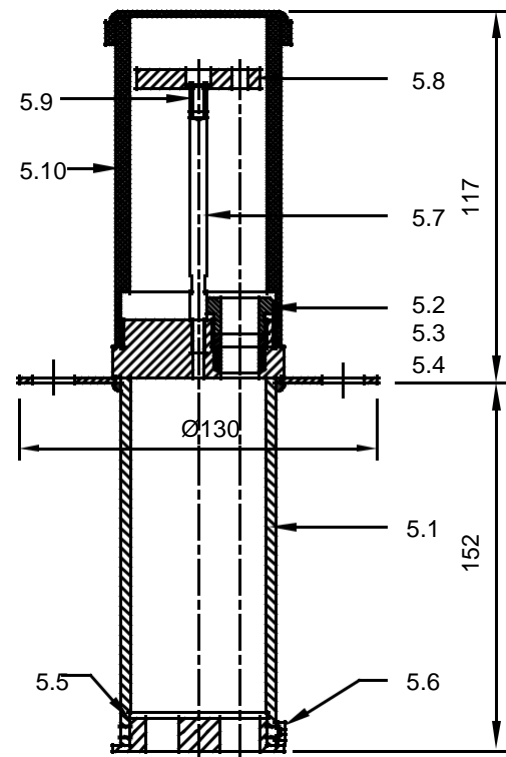
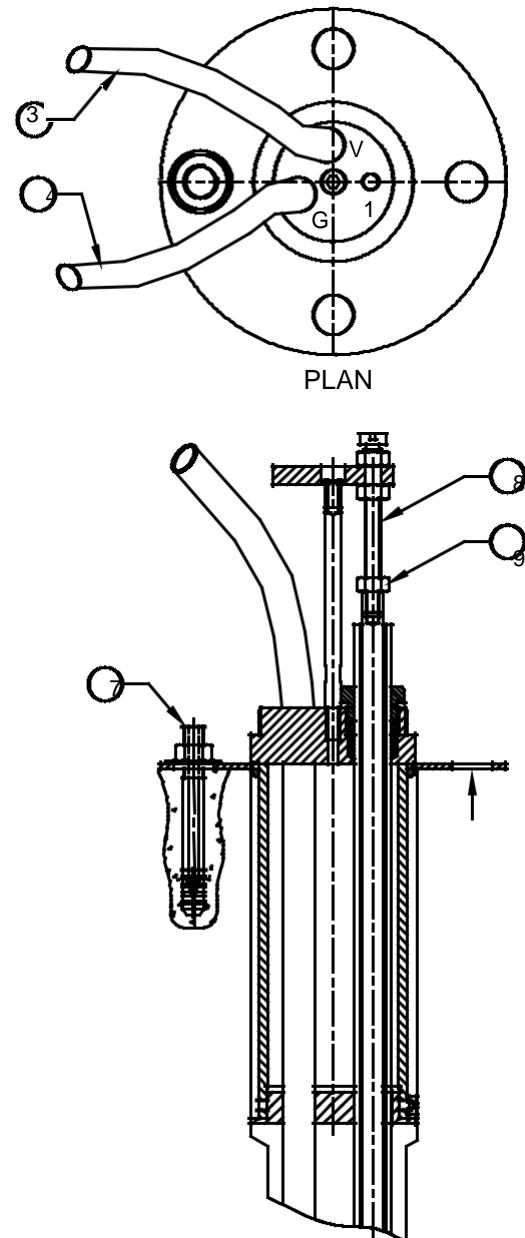

Figure 2.2
Figure 2.5 – EDS-64UD Assembly
Borehole extensometer measures displacement taking place in a borehole with reference to time. Extensometer helps to accurately measure change in distance between anchor (1 figure 2.1) with respect to reference plate (5.8 in figure 2.2) and monitor their relative displacement with passage of time. It is usually assumed that the anchor is in stable ground and so any change in anchor spacing is interpreted as sag of roof bed, movement of side wall or slope, settlement of foundation etc.
8	Setting screw (Ch. Head) M6x100 (refer Figure 2.5)
9	Hex. Nut M6 (refer Figure 2.5)
Refer to figure 2.2 and part list below it for details. Reference head assembly for single point extensometer is installed in a borehole of  $\phi$  50 mm. The diameter at mouth of borehole is increased to 62 mm up to a depth of 200 mm. The flange has four 15 mm diameter mounting holes at a PCD of 105 mm.
It comprises of a stainless steel/fiberglass rod of specified length protected inside an outer PVC tubing/continuous nylon tube. The rod has two end connectors. One end connector has a male thread and fits into the anchor. The other end connector with a female thread is for the reference button. The anchor end of PVC/nylon tube is firmly sealed with the anchor to prevent any grout from leaking in. The other end of the PVC/nylon tube is firmly sealed in the reference head assembly (refer 5.2 – 5.4 in figure 2.2). Proper sealing in the reference head assembly is especially necessary for upwards to horizontally slanting holes for preventing any grout for leaking into the reference head assembly during grouting.
3.2.2 Refer to figure 2-2. Remove cover (5.10) from flanged housing (5.1) and place latter flat on the ground. Loosen all hollow bolts (5.4) slightly.
3.2.4 The end of stainless steel rod to pass through the guide plate (5.5 of figure 2.2) to emerge through hole marked '1' on reference/flanged housing top (5.1 of figure 2.2). In case of Fiberglass rod,
guide end of fiberglass rod through corresponding hole in guide plate (5.5 of figure 2.2) to emerge through hole marked '1' on reference/flanged housing top (5.1 of figure 2.2). Fiberglass rod will have to be bent to achieve this. Locate setting screw (8 of figure 2.5) between reference plate (5.8 of figure 2.2) and female connector end of stainless steel/fiberglass rod. Insert setting screw (8 of figure 2.5) through reference plate hole and screw through setting spacer into female connector end. When tightened, reference button will be at a depth of around 25 mm from top of reference plate. In case this distance is to be maintained different, use different length setting spacer (8 of figure 2.5).
3.2.5 In case hole in reference plate is not aligned with hole marked '1' in flanged housing, loosen Allen head bolt (5.9 of figure 2.2) and retighten after aligning.
**NOTE:** On side wall and roof where extension is generally expected, it may be desirable to use a 5-10 mm setting spacer (8 of figure 2.5). Similarly, in a vertically down borehole where settlement is generally expected, it may be desirable to use a setting spacer of 40-45 mm.
3.2.6 Tighten hollow bolt (5.4 of figure 2.2) with spanner size 20 mm to firmly grip PVC/nylon tube but not to squeeze or hinder free movement of female end connector inside the PVC/nylon tube.
**NOTE:** In upward to horizontally sloping borehole, be particularly careful in tightening the hollow bolts (5.4 of figure 2.2) properly as grout may leak through into the reference head assembly during the grouting process.
3.2.7 Install grout tube in same manner as described in § 3.2.2 - 3.2.5. Generally, lower end of grout tube is kept at a level higher than the anchor. While inserting the anchor in borehole, lowest end of grout tube is tied with a cable tie to stainless steel/fiberglass connecting rod. To determine length of grout tube ensure that around 1.5 m is outside the flanged housing (5.1 of figure 2.2) for ease in attaching it to grout pump.
3.2.8 Wrap rags or jute cloth strips soaked in quick setting cement water mix outside flanged housing (5.1 of figure 2.2) to build up approximately 5 mm thick layer. Lift and insert housing in borehole using a to and fro screwing motion sealing the annular space between housing and borehole. Fix wedge anchors ('7' in figure 2.5) in holes drilled earlier for securing flanged housing. Give enough time to let flanged housing set in borehole.
3.2.11 Remove screws (9 of figure 2.5) and setting spacers (8 of figure 2.5). Cut the grout and vent tubes from the root and remove them. Clean reference head assembly properly.